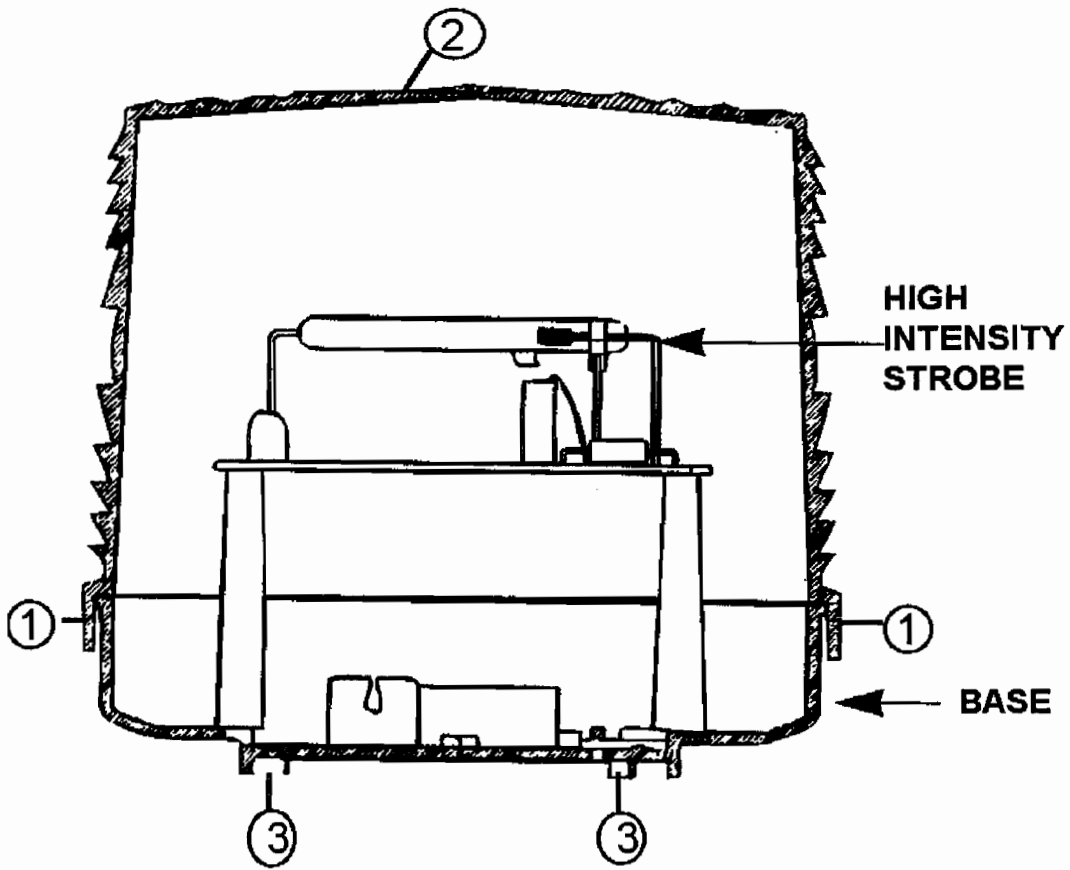

Figure 4-1. Murphy Panel Beacon Light
a. Replace (Refer to Figure 4-1)